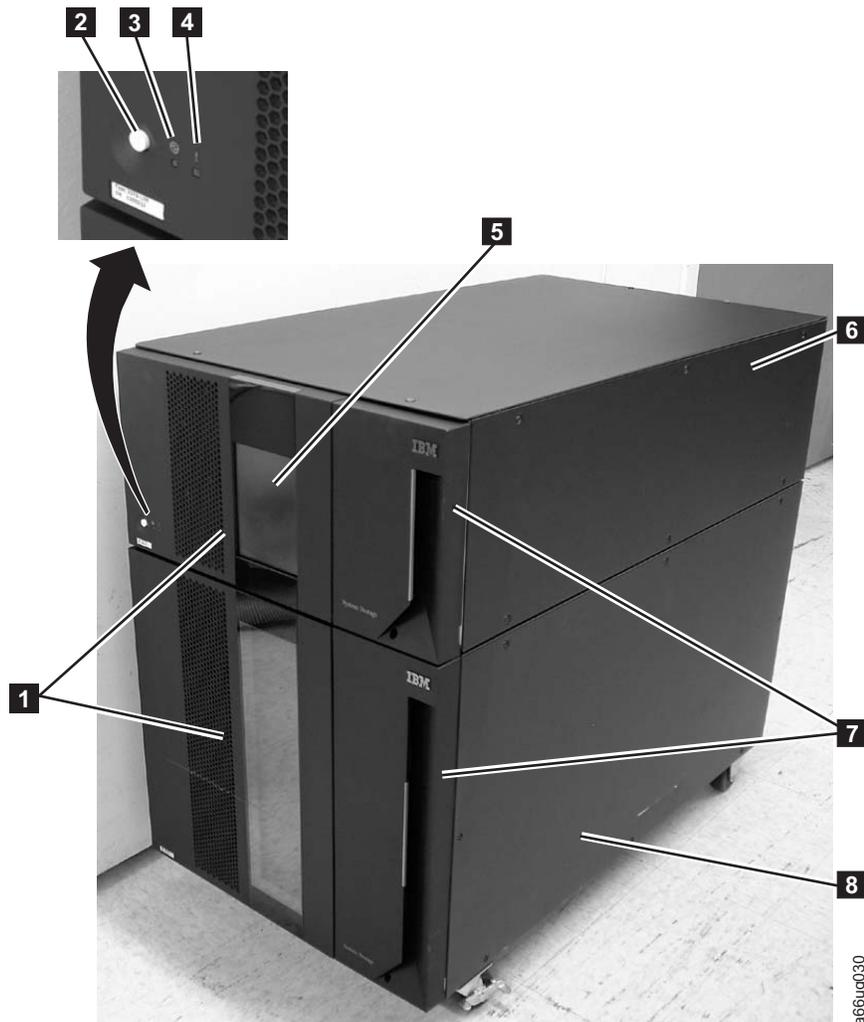

Figure 2-1. Front panel of a 14U library
All library configurations include the control module ( **6** in Figure 2-1). The control module contains the robotics, library control blade (LCB), and touch screen display. The control module also contains an I/O station, fixed storage slots, tape drives, and at least one power supply.
Each 9U expansion module ( **8** in Figure 2-1 on page 2-2) is a supplementary module that is attached to the 5U Control Module. Like the control module, the expansion modules provide fixed storage slots, tape drive slots, and power supply slots. The I/O station in an expansion module can be configured as storage.
I/O Stations (7 in Figure 2-1 on page 2-2) are located on the front panel of the library and enable the importing and exporting of cartridges without interrupting normal library operations. A control module I/O Station has a capacity of six cartridges. A 9U expansion module I/O Station has a capacity of 12 cartridges.
This door is locked by the I/O Station. To open the Access Door ( **1** in Figure 2-1 on page 2-2), you must first open the I/O Station.
The Operator Panel ( **5** in Figure 2-1 on page 2-2) is the touchscreen display device located on the Access Door of the control module. Library operations and service functions are performed from this screen.
Pressing the Power Button ( **2** in Figure 2-1 on page 2-2) on the front panel of a control module turns the Picker and Operator Panel ON or OFF; however, power is still applied to the power supplies. The Power Button is used during library shutdown and to manually reboot the library.
- Green power ON LED ( **3** in Figure 2-1 on page 2-2): When lit, this LED indicates that the library power is ON.
- Amber Operator Intervention Alert LED ( **4** in Figure 2-1 on page 2-2): When lit, this LED indicates that there is a Library, Drives, or Media Operator Intervention available. To access the Operator Intervention, select **Tools** → **Operator Intervention** from the Operator Panel.